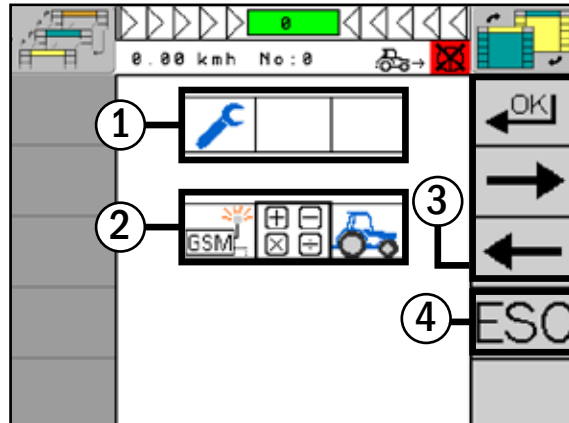

Fig. 38: Menu display
- Location display (see Fig. 38 – 1)
- Menu item selection (see Fig. 38 – 2)
Navigate through the menu items using the “left/right arrow keys”. Confirm your selection with the “OK key” (see Fig. 38 – 3). The selection is always the central symbol in the menu item selection.
Using the “Escape key”, you can move one level back (see Fig. 38 – 4).